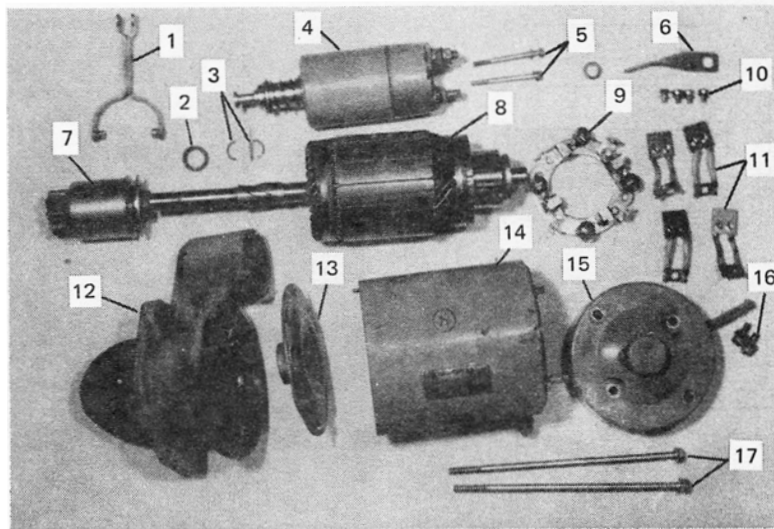

Figure 23
8. Remove the pinion and center bearing. Refer to Figure 23 to identify the starting motor components.